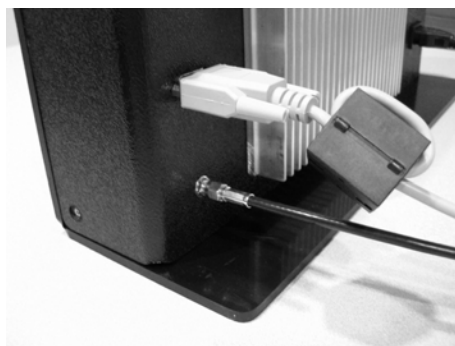

Figure 1
- Connect the antenna pad cable to the scanner body. See Figure 1 below.